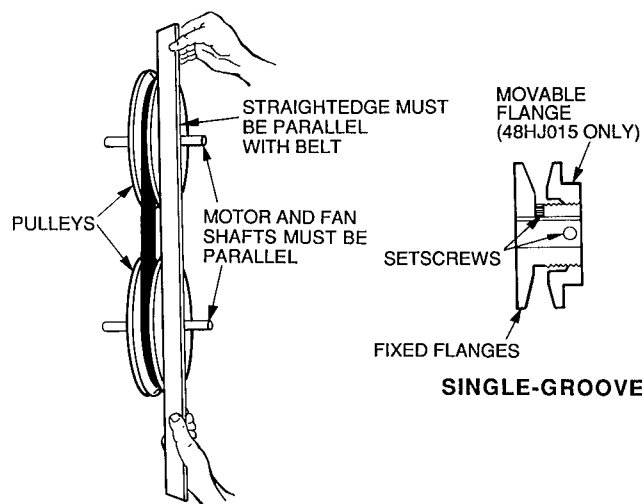

Fig. 24 — Evaporator-Fan Alignment and Adjustment
3. Loosen movable-pulley flange setscrew (see Fig. 24).
To align fan and motor pulleys (see Fig. 24):